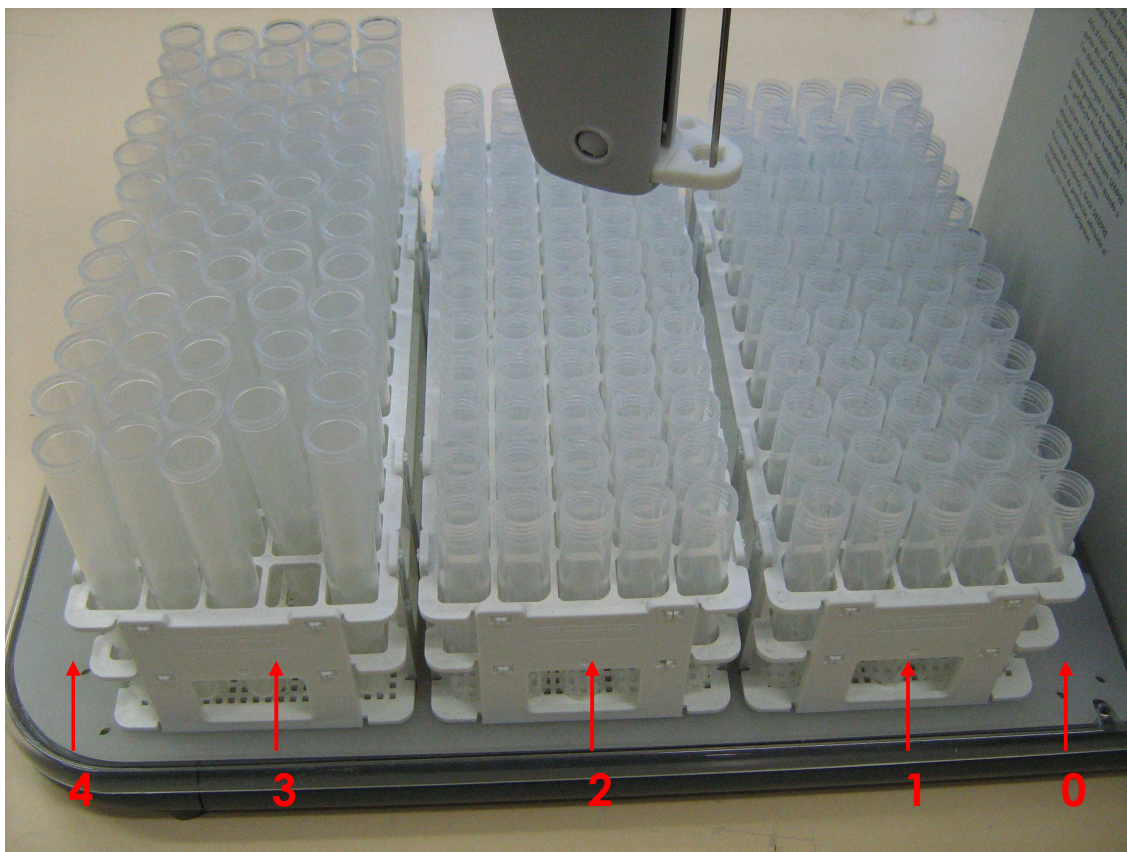

Figure 19: Rack Positions on the Fraction Collector
2. The different rack positions are shown in Figure 19